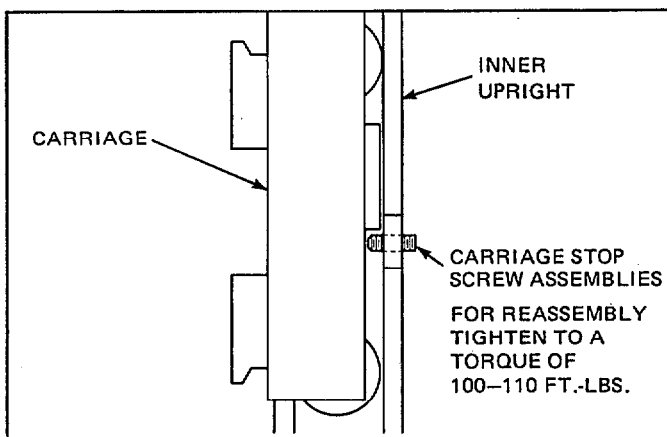

Figure 37. Carriage Stop Screw Assembly
2. Make sure the carriage stop screw assemblies are retracted. See Figure 37.
5. Thread in the carriage stop screw assemblies. See Figure 37.